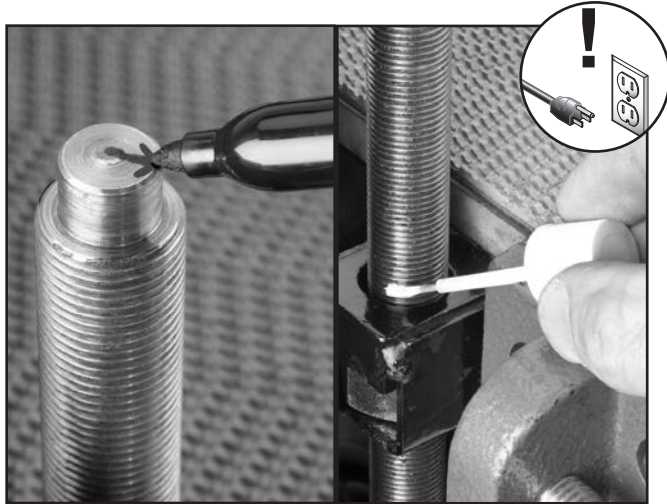

Figure 46. Locations to mark table lift screws.
11. Mark the top of the table lift screws with arrows (all pointing in same direction) and mark the screws with liquid correction fluid above the mounting bracket (**Figure 46**). Later, when you reassemble the conveyor table, you can use these marks to reset the table height close to the current position.